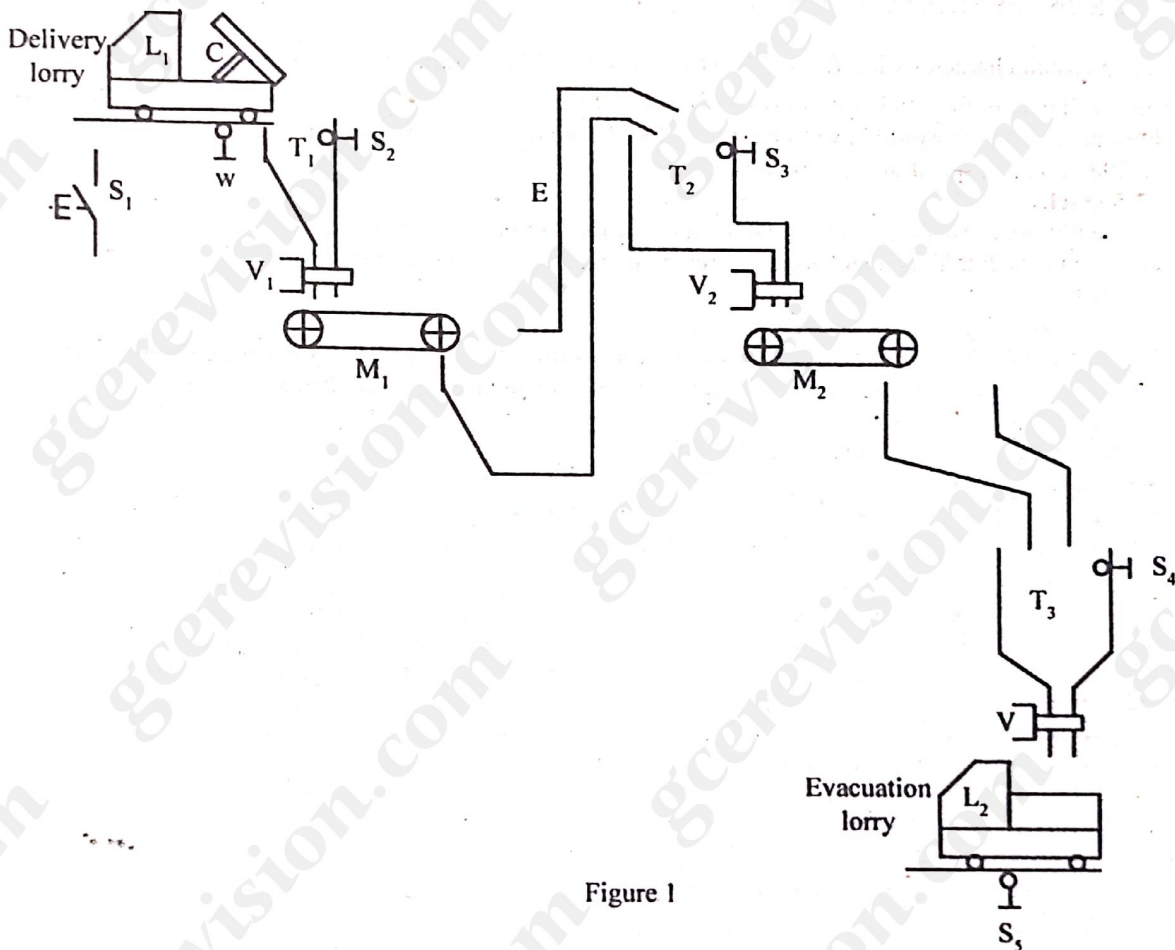

Figure 1
A small automatic system is designed to wash palm nuts. It comprises a collection tank (T_1), a washing tank (T_2), an evacuation tank (T_3), two conveyors (M_1, M_2) and an elevator (E), as shown in figure 1.